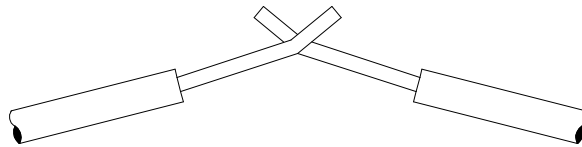

Fig. 1
- For a small gauge wires, (up to 1mm²), and when a mechanical attachment is required, secure the 2 wire ends, by twisting them together. Align carefully the strands in order to avoid any poke through of the sleeve. See Fig. 1 and Fig. 2.